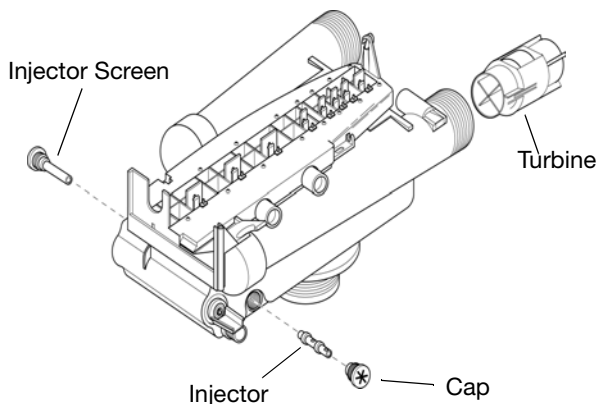

Figure 13
4. Using a screwdriver, remove injector screen and injector cap (Figure 13).
4. Using a needle-nose pliers, remove the turbine from the outlet housing. Grasp one of the four vanes of the outer gland and pull straight out to remove turbine assembly from the outlet of the valve (Figure 13).